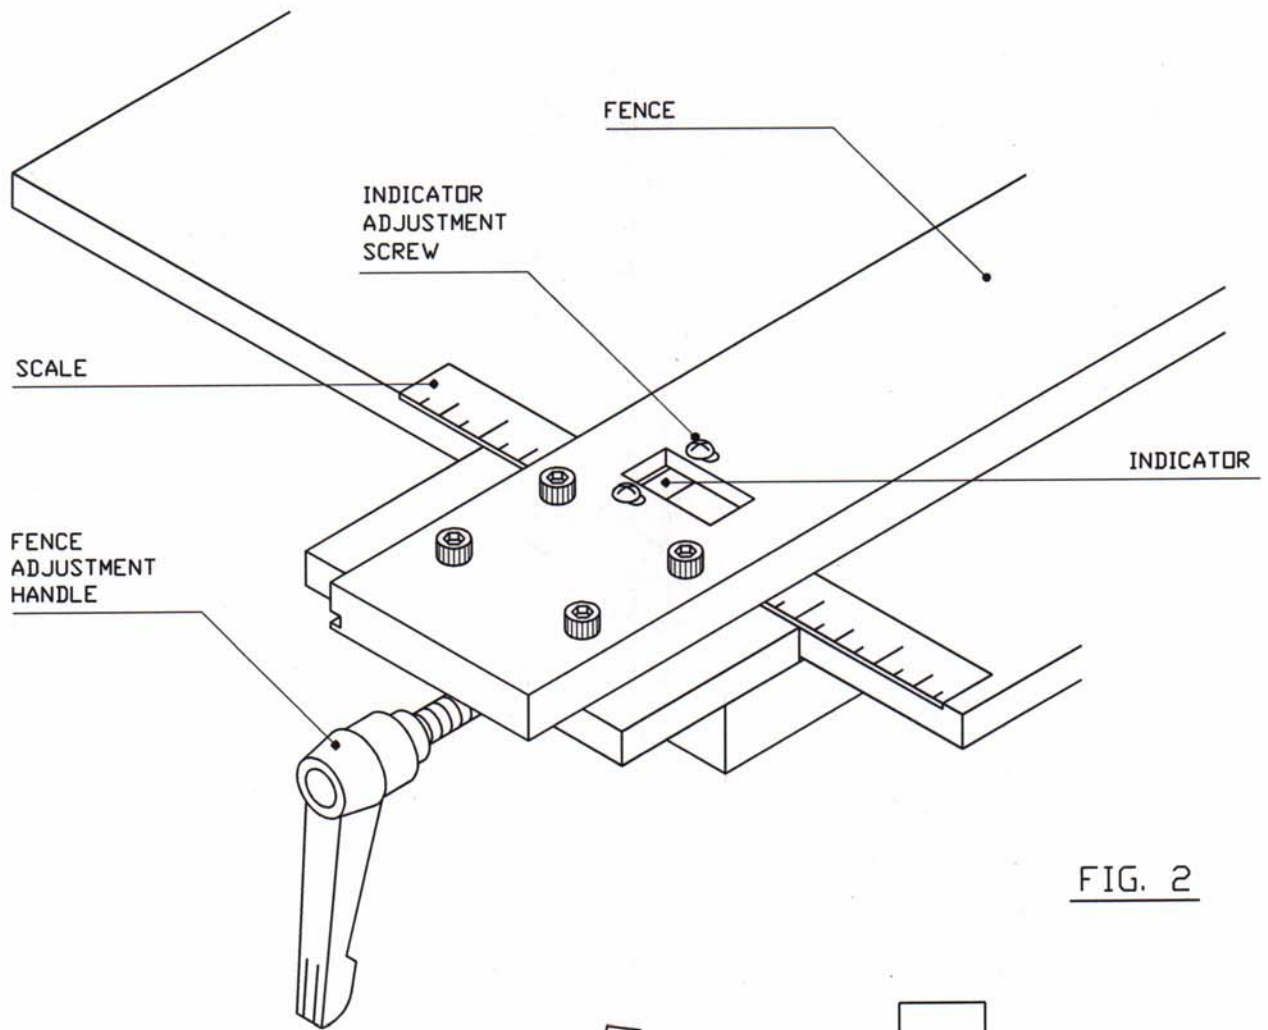

FIG. 2
- b) Position the fence until indicator is at desired cutting width (see Fig. 2)